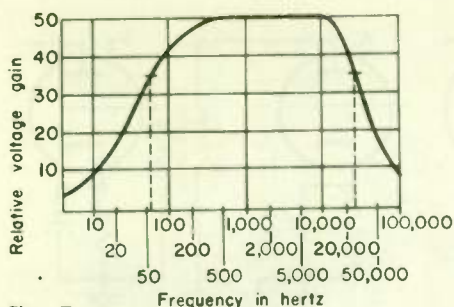

Fig. 7
- 25 kHz . . . The bandwidth is between the two points that are 0.707 times the maximum value, or $50 \times 0.707 = 35.35$. See Fig. 7. We mark the two points on the curve that are at a value of 35 and drop vertical lines straight down to the horizontal base line, which is a nonlinear scale. Note from the values along the base line that the graph is a semilog graph. The low side of the bandwidth is about 54 Hz, and the high side of the bandwidth is about 26,000 Hz. Thus the bandwidth is $26,000 - 54 = 25,046$ Hz, approximately.